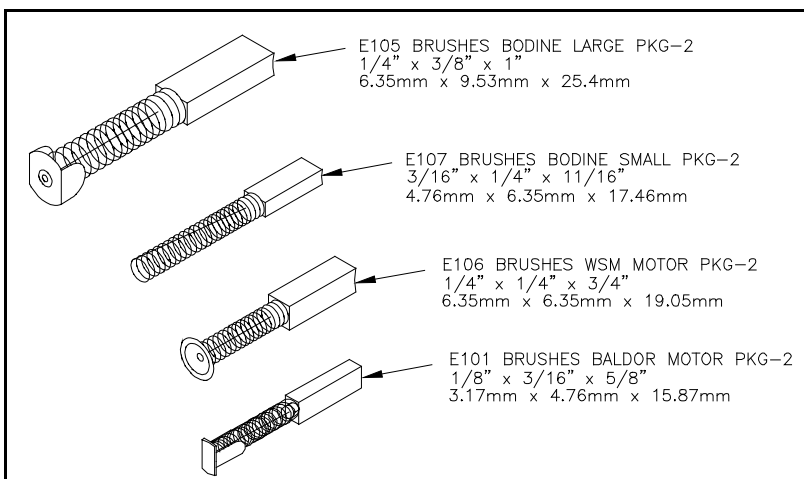

Figure 2 Replacement brushes
5.2 The brushes will stop working when they are about 1/4" long. If the length of the carbon brushes is less than 3/8" or the brushes are unequal lengths, replace **BOTH** brushes as a set. Use the brushes supplied in the accessory kit or order Wells part number **E105 BRUSHES BODINE LARGE PKG-2** unless you have a small brush motor. The small brush motor may be found in older engine units (before 1983), 230 volt models and special order units. See Figure 2.